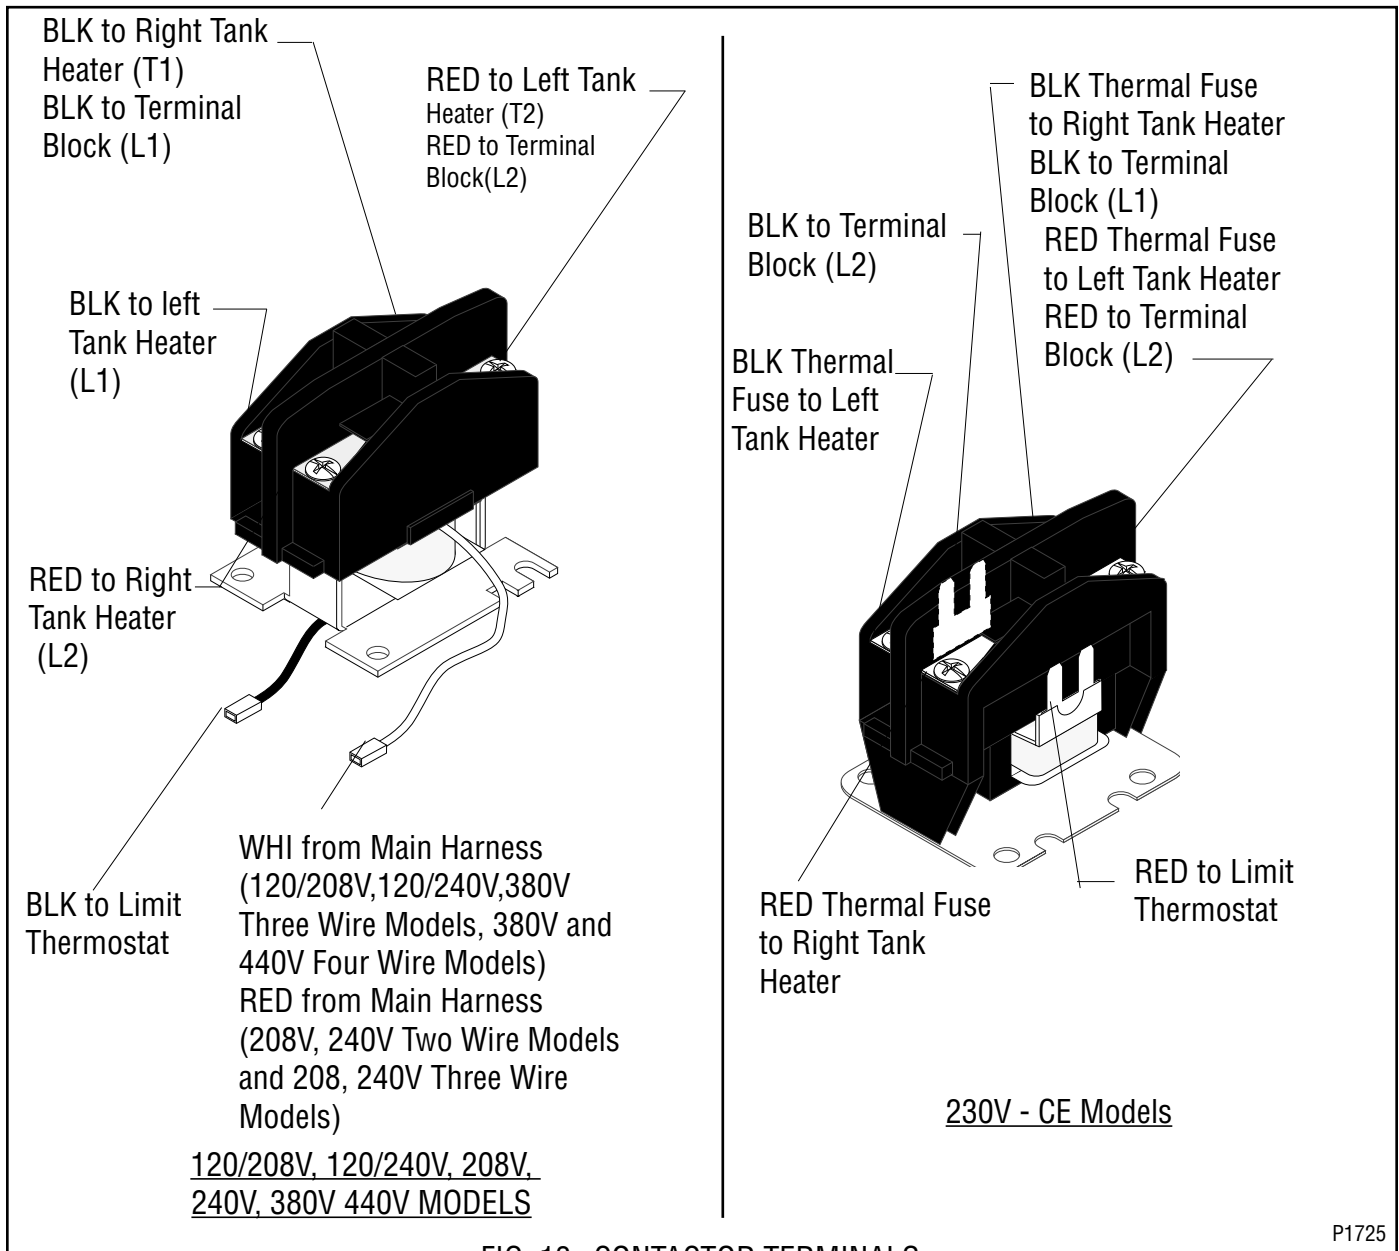

FIG. 13a CONTACTOR TERMINALS
4. Refer to Fig. 13a and reconnect the wires.